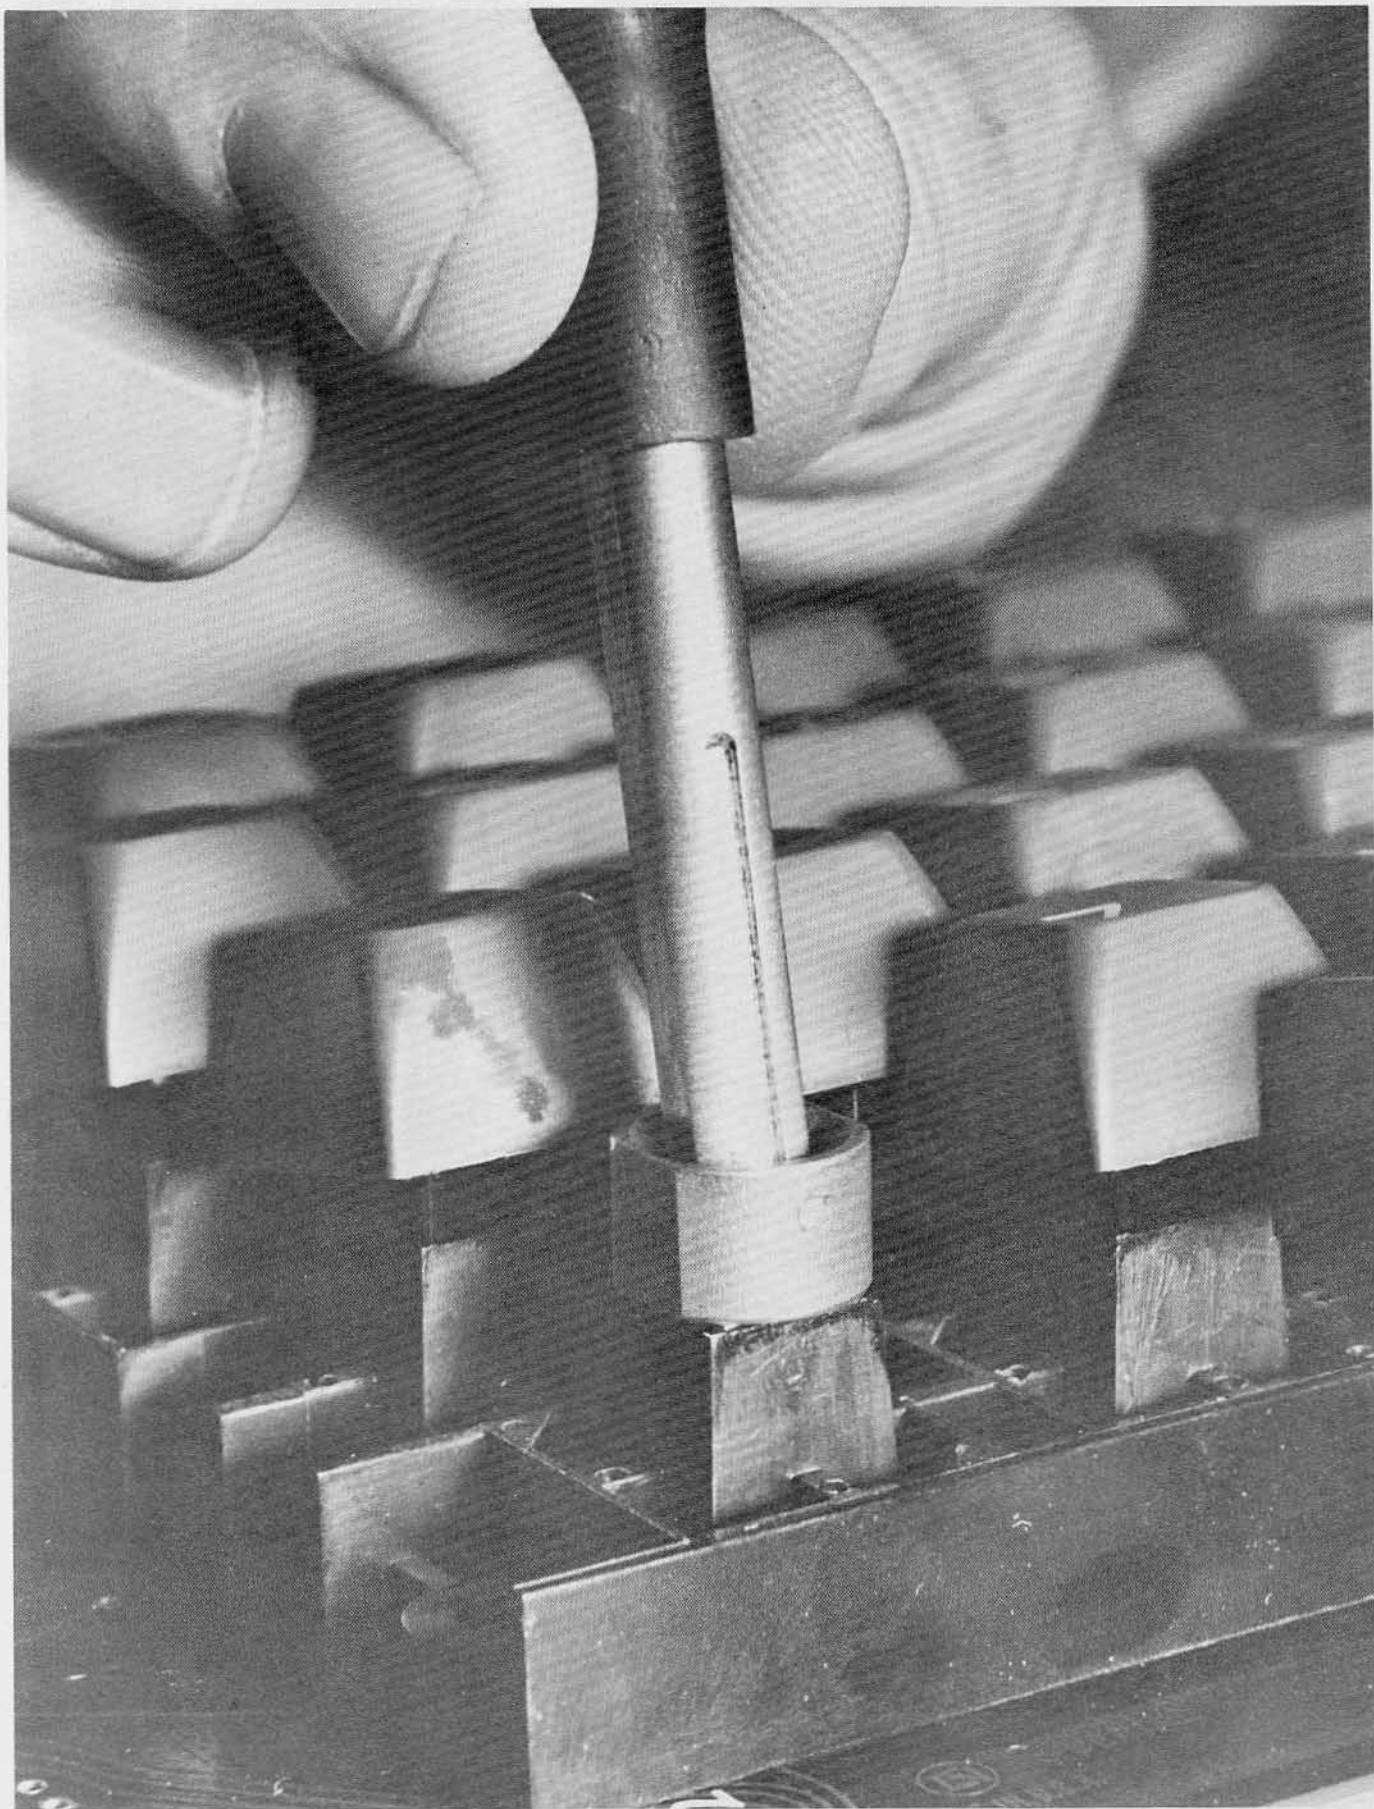

Figure 5-9.
- i. Place the insertion tool into the guide matching keyway slot and key. Press the tool firmly straight down until the contacts are seated firmly (the tool clicks). (See figure 5-9).